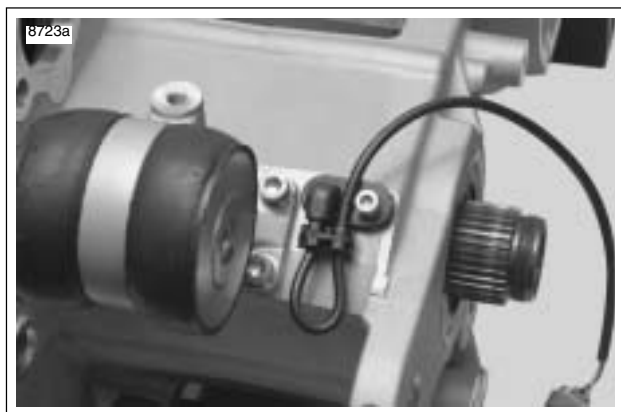

Figure 3-34. Rear Isolator and Mounting Hardware
1. See Figure 3-34. Install rear isolator assembly by installing the two rear fasteners first and then the two forward fasteners (re-install with new fasteners). Tighten to 25-27 ft-lbs (33.9-36.6 Nm).